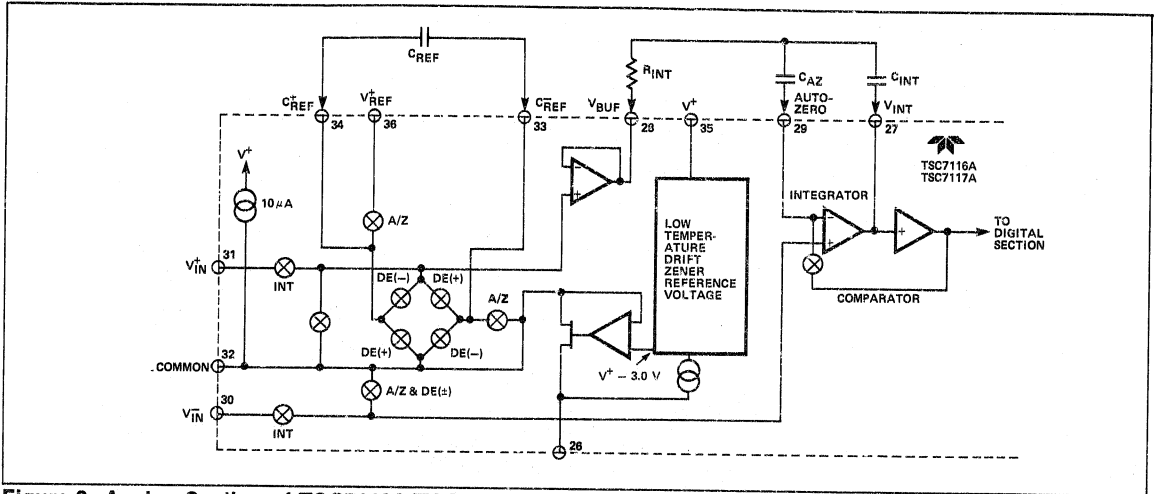

Figure 3: Analog Section of TSC7116A/TSC7117A
Figure 3 shows the Block Diagram of the Analog Section for the TSC7116A and TSC7117A. Each measurement cycle is divided into three phases. They are (1) auto-zero (A-Z), (2) signal integrate (INT) and (3) reference (REF).